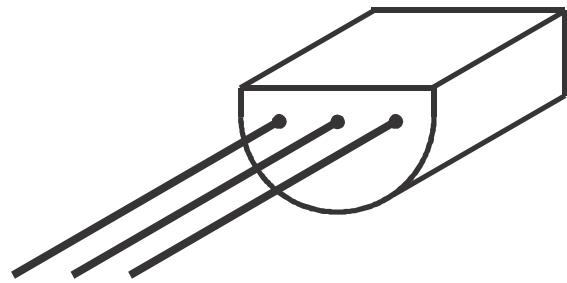

Figure 2 PN2222A Transistor TO-92 Package
- 1) Using transistor datasheet(s) (insert relevant parts in logbook), label the transistor leads in Figure 2 (e.g., B, C, & E). Then, insert information/graphs on absolute maximum ratings, DC current gain  $h_{FE}$  (AKA:  $\beta$ ), and  $V_{BE}$  for the **active** (AKA: on) mode, **NOT** saturation or cut-off modes.